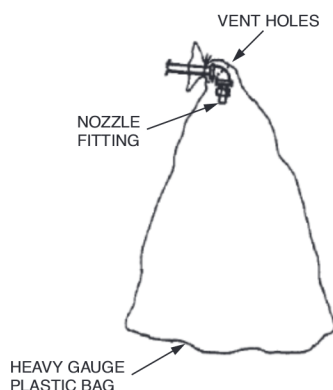
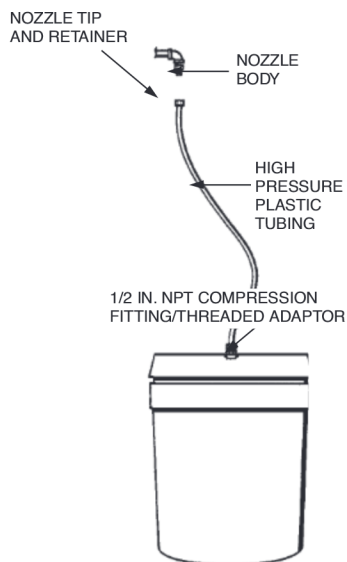

FIGURE 2
FIGURE 3
- 7. To perform the flushing procedure, either secure heavy-duty plastic bags to each nozzle (See Figure 2) or remove each nozzle tip and strainer and attach plastic tubing. See Figure 3.